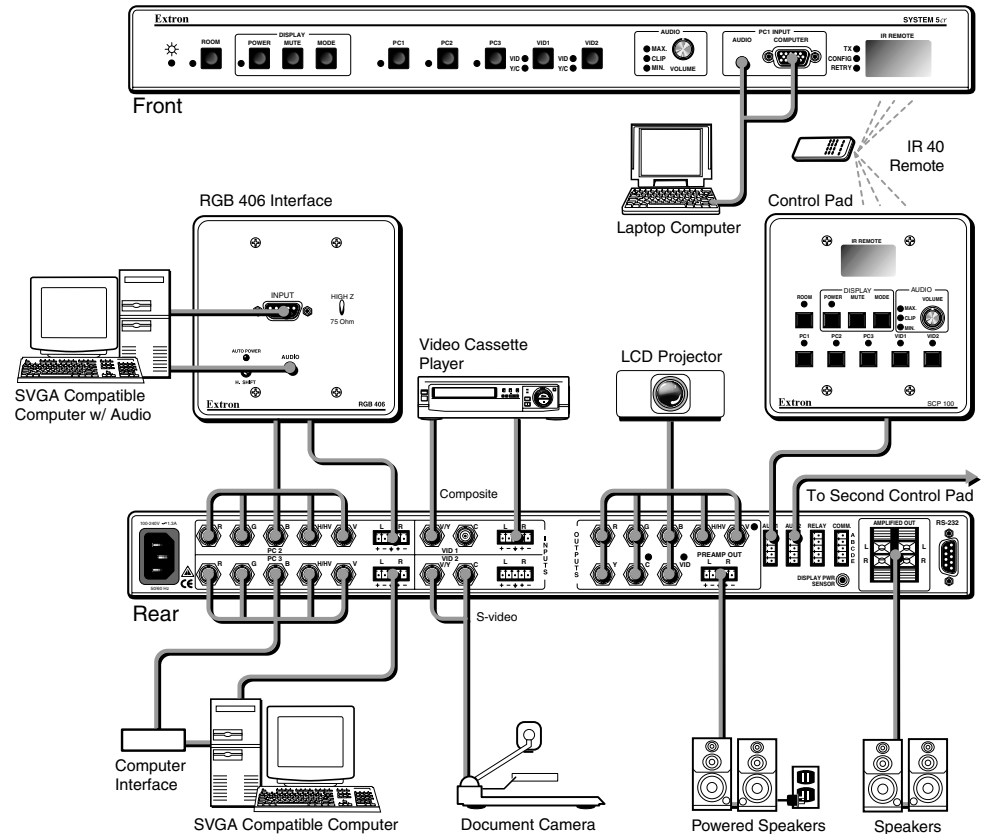

Figure 1-1. Example of a System 5 as part of a video/audio system.
As an example, IR commands for the projector shown in Figure 1-1 can be stored in the System 5 memory such that when the VID1 input is selected, the projector will switch to its composite video mode. Selecting VID2 input could send a command to tell the projector to switch to S-video mode.
- Computer video may also be connected through BNC connectors to the PC2 and PC3 inputs, through an interface, such as an RGB 406, as shown in Figure 1-1.